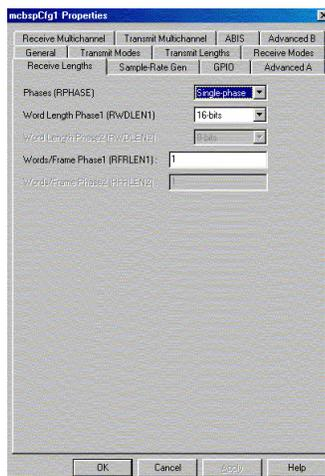
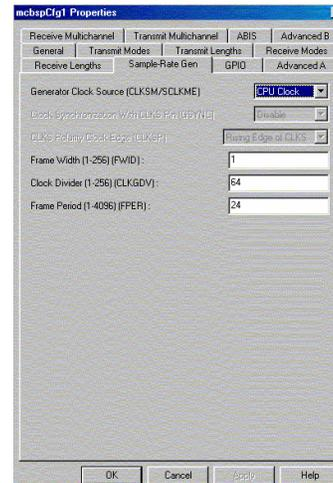

Figure 12. McBSP Receive Length Tab
Figure 13. McBSP Sample Rate Generator Tab
- In the *Receive Length* table, select options as shown in Figure 12. Set for single-phase 16-bit transfers. In the *Sample-Rate Gen* tab, set the options shown in Figure 13. Clock source is CPU clock. Frame width is 1. In this application the ADS8345 should run at max sample rate. To achieve 100 kHz sample frequency on C5416™ DSK, clock divide must be 64 and frame period 24.